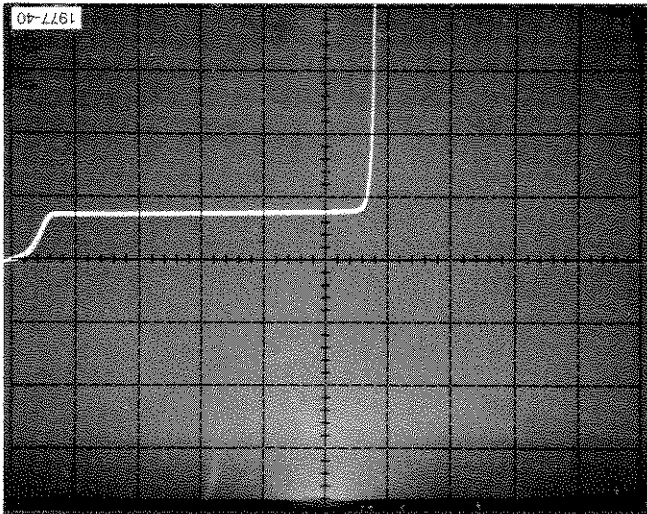

Fig. E-4. - Input bias current.
- d. Check that the display displacement from the zero reference point indicates  $\leq 250$  nA of -Input Bias Current (see Fig. E-4).